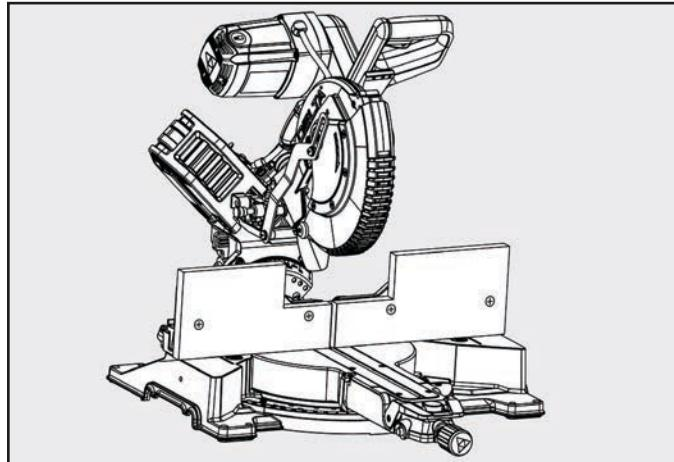

Figure 24
2. Place auxiliary fence wood against miter saw fence. See figure 24. The maximum height for this wood must not exceed 5.5". Check to make sure auxiliary fence does not make contact with saw head, check with saw head in the full DOWN and fully RETRACTED position.